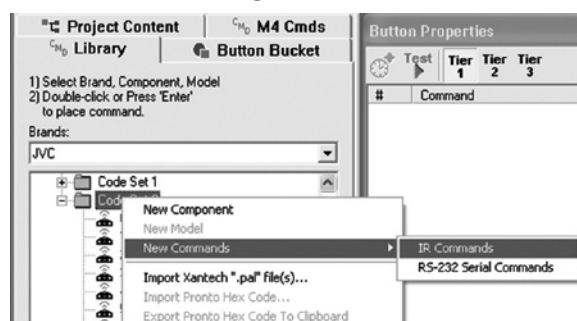

Figure 70 Accessing the New IR Commands Fields
2. Right-click the **Code Set 2** folder, for example, and point to **New Commands** in the drop down, then left-click **IR Commands**. Refer to **Figure 70**.